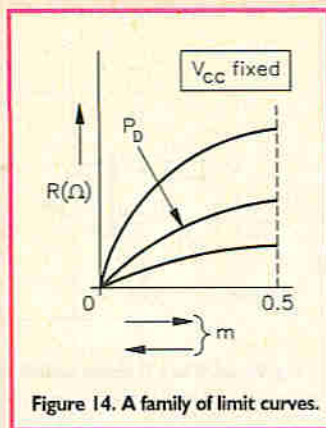
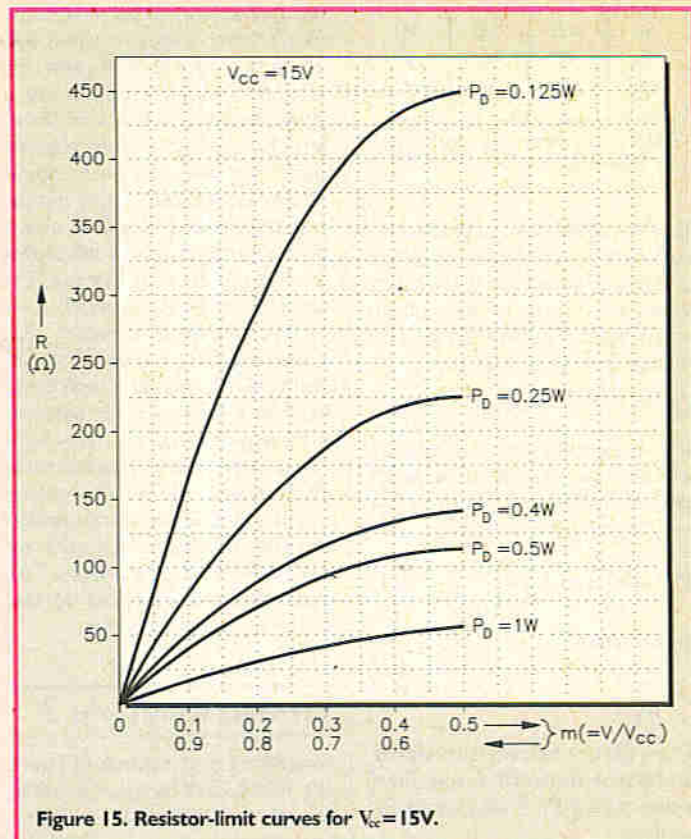

Figure 14. A family of limit curves.
Figure 15. Resistor-limit curves for  $V_{CC} = 15V$ .
Of course, Figure 14 is for just one pair of values of  $V_{CC}$  and  $P_D$ . In general, we are more interested in a set of curves (Figure 14), showing R vs m for a given  $V_{CC}$  and various fixed values of  $P_D$ . Figure 15 is one such family, plotted to scale, for  $V_{CC}=15V$  and power levels not exceeding 1W. To avoid a display that is too cluttered, the chosen values of  $P_D$  correspond only to those of practical low-power devices.
The choice  $V_{CC}=15V$  is made because it is an industry standard for analogue circuit design. For operation at other values of  $V_{CC}$  we can still use Figure 15 but must use also an appropriate R-multiplier, given in Table 1.
Up to this point in the discussion, we have considered only d.c. power dissipation in X. Before we use Figure 15 on some practical examples, we must investigate the effect of a.c. power dissipation.
Equation (17) tells us that the power dissipation in  $X$  is a maximum at the quiescent value  $P_Q$  when the sinusoidal signal is absent. Thus if we use Figure 15 to ensure that  $P_Q$  does not exceed the device rating  $P_D$  under quiescent conditions then  $X$  cannot over-dissipate when a signal is present. (It is assumed that  $I_P < I_Q$ , so  $X$  always conducts.)
This conclusion also holds for non-sinusoidal variations provided they are 'area-balanced', e.g., a square waveform or a symmetrical triangular waveform. (Note, though, that (16) requires modification for non-sinusoidal signals.) We now consider the application of Figure 15 to two design examples.
to interpolate on Figure 15 and the resistor value found for solution (a). To do this we make use of (15) and the resistor value found for solution (a).
In Figure 15 on the curve for  $P_D = 0.25W$  at  $m = 0.5$ , the resistor value is  $225\Omega$ . Using (15) to find  $R_C$  for  $P_D = 0.225W$ , we obtain  $R_C = 250\Omega$ . However, this is for  $V_{CC} = 15V$ . Referring to Table 1, the  $R$ -multiplier for  $V_{CC} = 10V$  is  $0.44$ . Hence,  $R_C \geq 111\Omega$ . The power rating for  $R$  with  $m = 0.5$  is, from
and take account of the scale factor ( $4/\pi^2$ ), which is approximately 0.4. Thus the curves of Figure 15, which were derived from a consideration of d.c. power alone, are also applicable in calculations involving the mean a.c. signal power developed in the output transistors of a Class B audio power amplifier. Table 1 still applies for  $V_{CC}$  not equal to 15V but (11) and (12) are no longer valid.
On Figure 15, for  $m (=n)=0.26$  and  $P_D=0.25W$ , we find  $R_L=175\Omega$ . Applying the correction factor ( $4/\pi^2$ ), we obtain the result  $R \geq 70.9\Omega$ . Using (16),  $P_o=0.176W$  for  $V_P=5V$ . A satisfactory rating for  $R_L$  is thus 0.25W.
**Solution (b):** From (22), the maximum value of  $n$  is 0.52. As this exceeds  $n=0.5$ , we use  $n=0.5$ .
On Figure 15, for  $m (=n)=0.5$  and  $P_D=0.25W$  we find  $R_L=225\Omega$ . With the scale factor included, this gives  $R_L \geq 91.2\Omega$ . Using (16),  $P_o=0.548W$  for  $V_P=10V$ . An appropriate rating for  $R_L$  is 0.6W, or 1W.
related problem might be as follows. What power rating is required for  $Q_N$ ,  $Q_P$  if  $R_L=25\Omega$  and  $V_P$  lies anywhere in the range 0V to 15V? In this case we multiply the given  $R_L$  by  $(\pi/4)$  to obtain  $61.7\Omega$ . Locating the point  $R_L=61.7\Omega$ ,  $m=0.5$  on Figure 15 we find it lies just above the curve for  $P_D=1W$ . Hence the required rating is 1W.
The three design examples that have been studied illustrate the usefulness of the universal resistor-limit curves of Figure 15 in circuit aspects of the power management of semiconductor devices. E